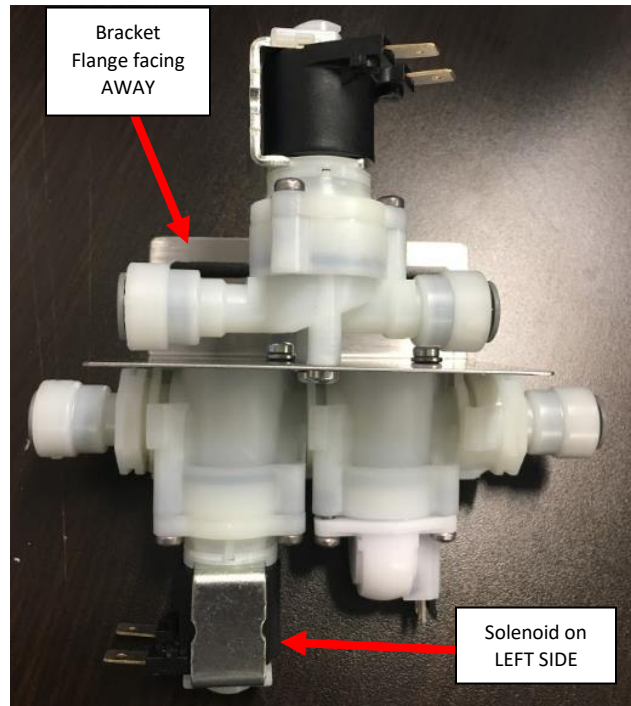

Figure G6: Flowmeter-Solenoid Module orientation Shown.
7. Replace the Solenoid Flowmeter Module if it is still functional or replace if necessary. Remember to reinstall the split washer removed when reinstalling the new Solenoid Flowmeter Module to prevent it from getting damaged. The Flowmeter Solenoid Module should be installed so that the Solenoid is on the LEFT with the Bracket Flange facing away from you. See Figure G6.